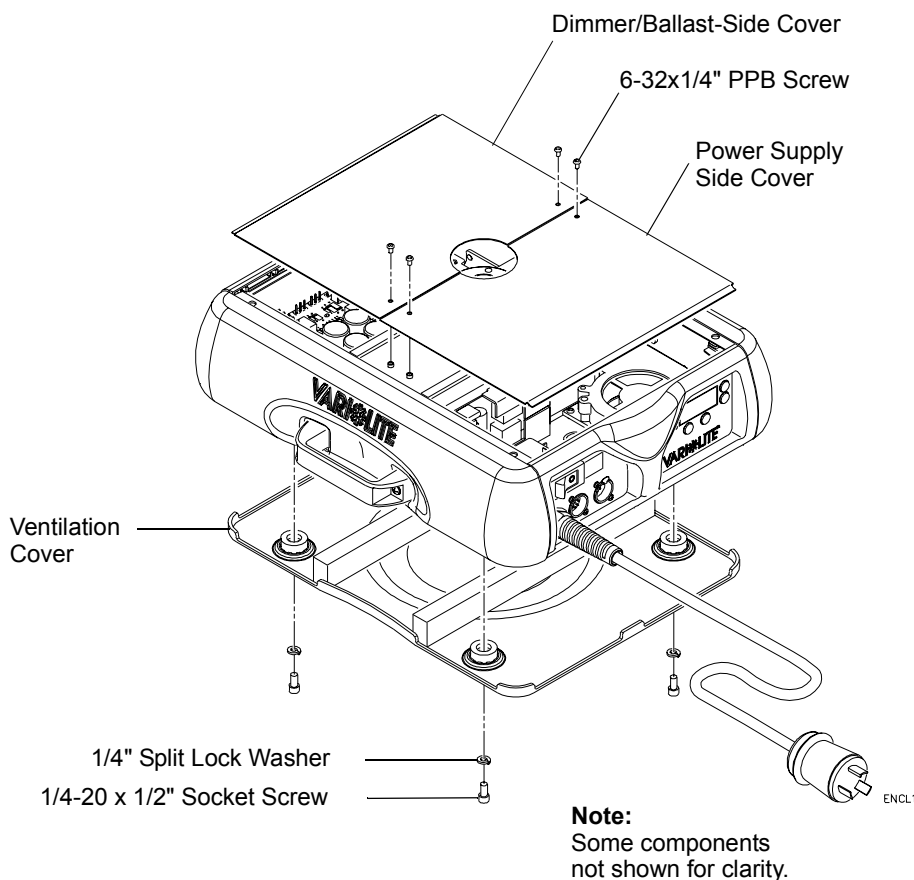

Figure 2-14: Removing Top and Bottom Enclosure Covers
- Step 2. At each top enclosure cover, remove two 6-32×1/4" PPB screws and remove cover. **Figure 2-14.**